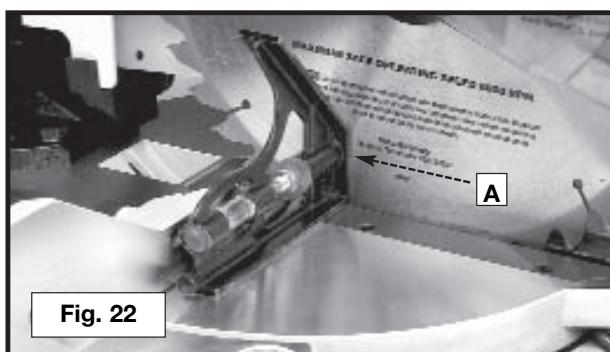

Fig. 22
2. Place one end of a square (A) Fig. 22 on the table and the other end against the blade. Check to see if the blade is 90° to the table (Fig. 22).